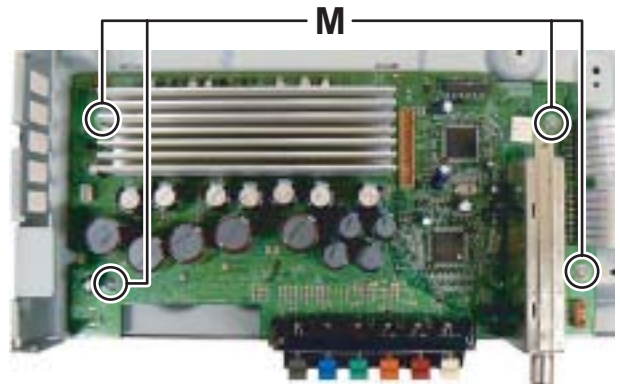

Fig.16
3.1.9 Removing the Amp board (See Fig.16)